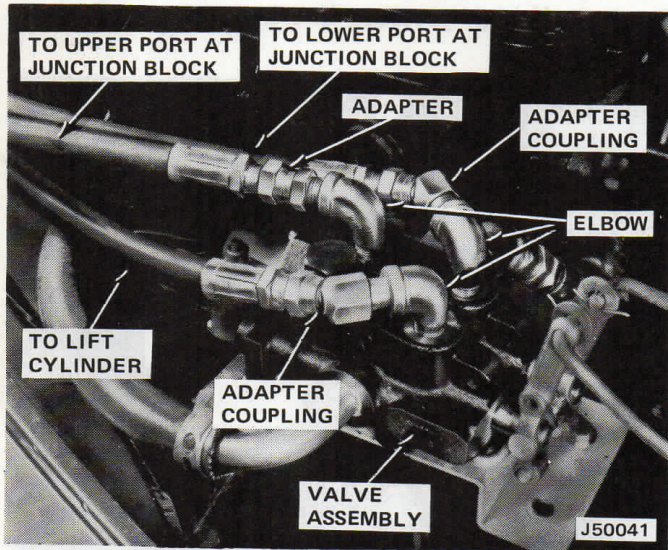

Fig. 1-40 Lift Cylinder and Junction Block Hose Installation
(14) Position junction block on right side of lift frame angle and drill one 3/8-inch hole. Secure with bolt, lockwasher, and nut.
(15) Install street ells in upper right opening in junction block.
(16) Route hoses from junction block and lift cylinder through front end sheet metal to valve assembly.
(17) Install elbows, adapter couplings, and adapter at valve assembly (fig. 1-40).